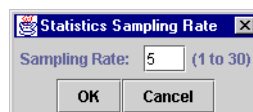

Figure 9-10. Statistics Sampling Rate Dialog Box
2. Click **Set Rate**. The **Statistics Sampling Rate** dialog box displays (see figure 9-10).